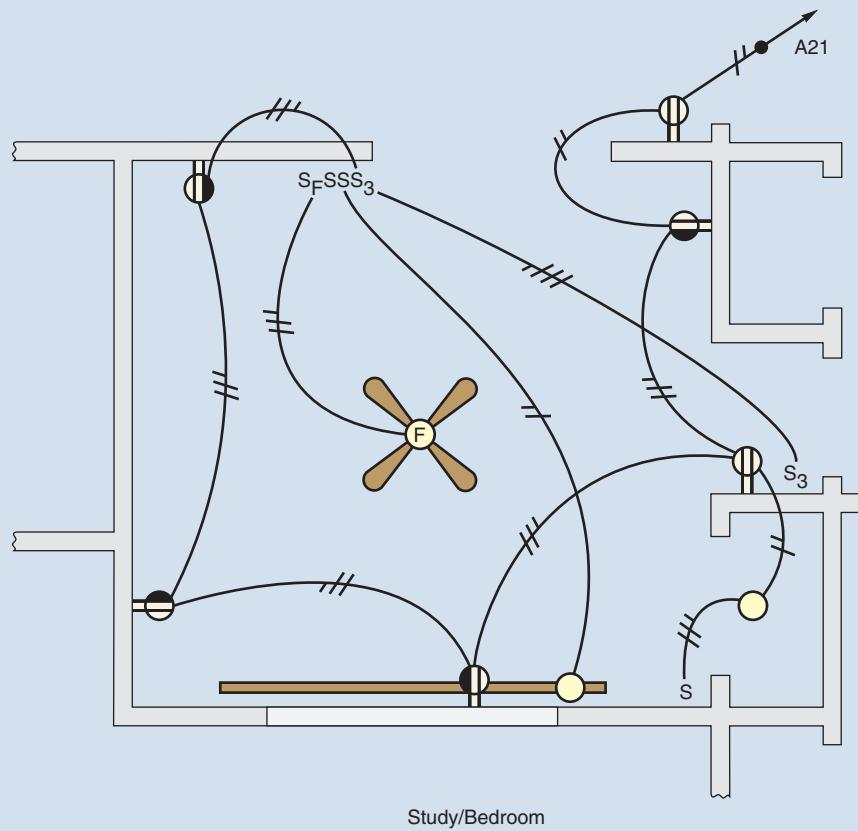

FIGURE 14-1 Cable layout for the Study/Bedroom. (*Delmar/Cengage Learning*)
This circuit feeds the Study/Bedroom at the receptacle in the Living Room just outside of the Study. From this point, the circuit feeds the split-wired receptacle just inside the door of the Study. A 3-wire cable runs around the room to feed the other four split-wired receptacles. Figure 14-1 shows the cable layout for Circuit A21.
8. Using the cable layout shown in Figure 14-1, make a complete wiring diagram of Circuit A21. Use colored pencils or pens.